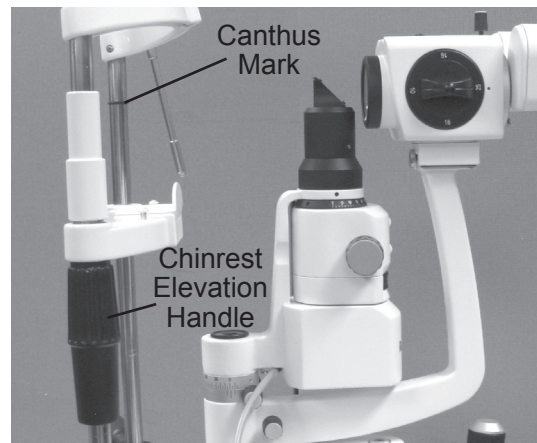

Figure IN-2 Adjust Patient Height
6. To position a patient, adjust the chinrest height by turning the Chinrest Elevation Handle on the post of the Chin Rest Assembly until the patient's canthus is in line with the Canthus Mark on the chin rest post. Refer to Figure IN-2.